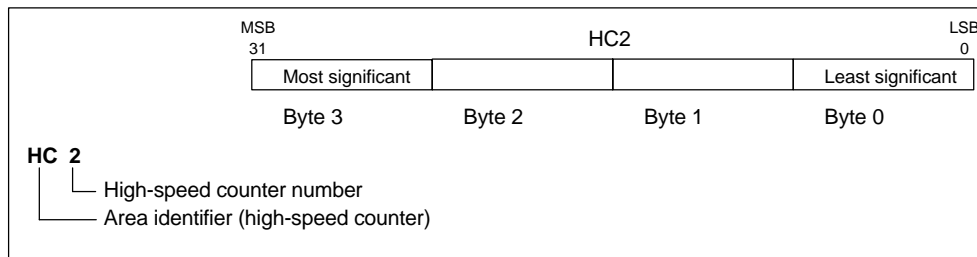

Figure A-7 Accessing the High-Speed Counter Current Values
High-speed counters are designed to count very high-speed events independent of the CPU scan. High-speed counters have a signed, 32-bit integer counting value (or current value). To access the count value for the high-speed counter, you specify the address of the high-speed counter, using the memory type (HC) and the counter number (such as HC0). The current value of the high-speed counter is a read-only value and, as shown in Figure A-7, can be addressed only as a double word (32 bits).